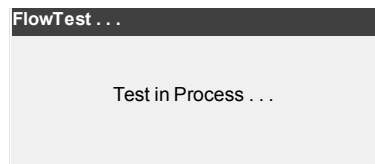

Fig. 7-25 Flow Test in Process
- Wait for test results (Fig. 7-25).